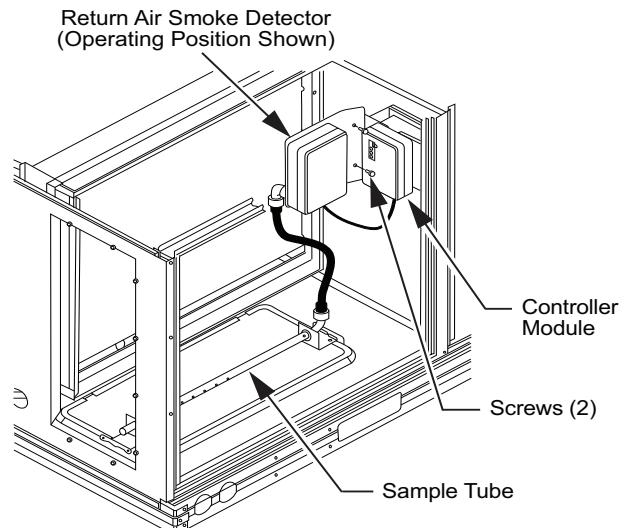

Fig. 41 — Return Air Smoke Detector Operating Position
3. Rotate the detector plate so the sensor is facing outwards and the sampling tube connection is on the bottom (see Fig. 41).